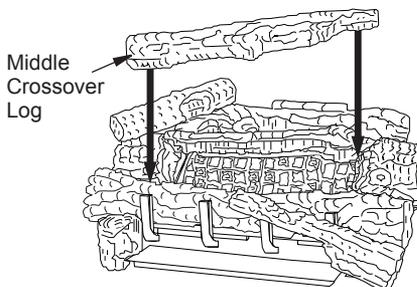

Figure 33 - Installing Middle Crossover Log
- Rest the middle crossover log onto the right middle log and the left front log (see Figure 33). Make sure to match the projection on the bottom of the crossover log with the recess area in the right middle log and the left front log.